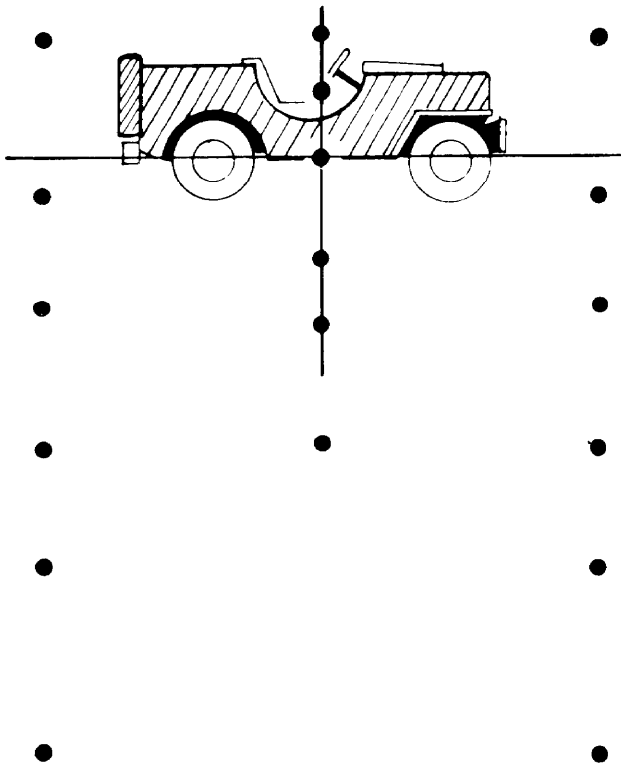

Figure 14. Sight picture (400 meters), caliber .50 machinegun.
- (1) To aim for range, select the correct range segment of the vertical line on the reticle and place it at the center base of the target. Figure 14 depicts a vehicle at a range of 400 meters with the correct sight picture. Since the reticle dots are placed in 200-meter intervals, engagement of targets at other ranges requires interpolation. For example, a target at a range of 500 meters would be engaged as depicted in figure 15.
- (2) The reticle dots of the Sight are not numbered; therefore, the gunner must remember their value and then lay on various targets. To develop skill in the proper selection of range dots and correct sight picture, preparatory sighting exercises must be conducted. The first sighting and aiming exercises may be conducted in classroom or training areas under daylight or night conditions. To conduct these exercises, mount the gun and Sight on the tripod mount and place a target at any range (at night any visible range) in front of the gun. During daylight